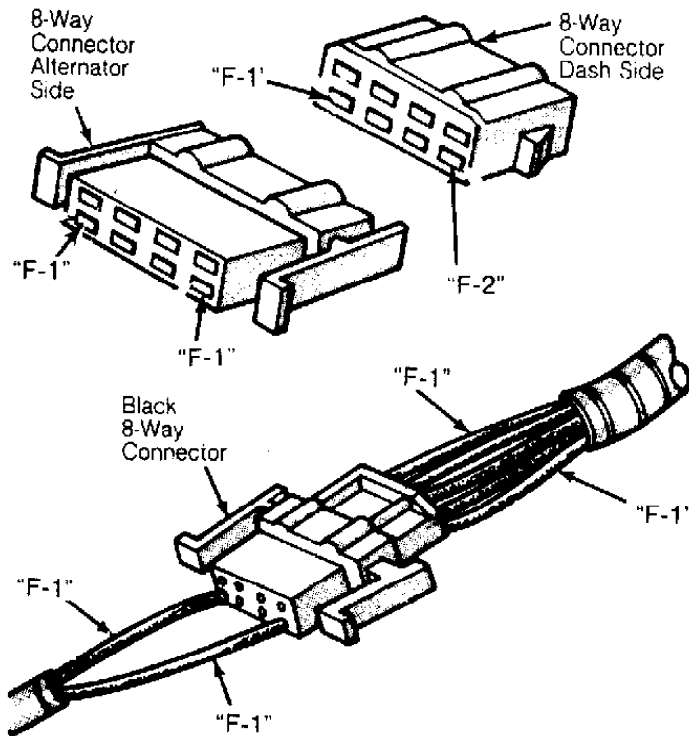

Fig. 9: "F1" & "F2" Connector ID
5) With ignition switch in "RUN" position. Voltmeter should read either 11-13 volts or 0-1 volt. Test pin 11 of 14-way connector short to ground. Test should read an open circuit. If both tests are not as specified, replace SMEC. Before replacing SMEC make sure Dark Green wire is not shorted to SMEC connector or alternator connector. See Fig. 9.